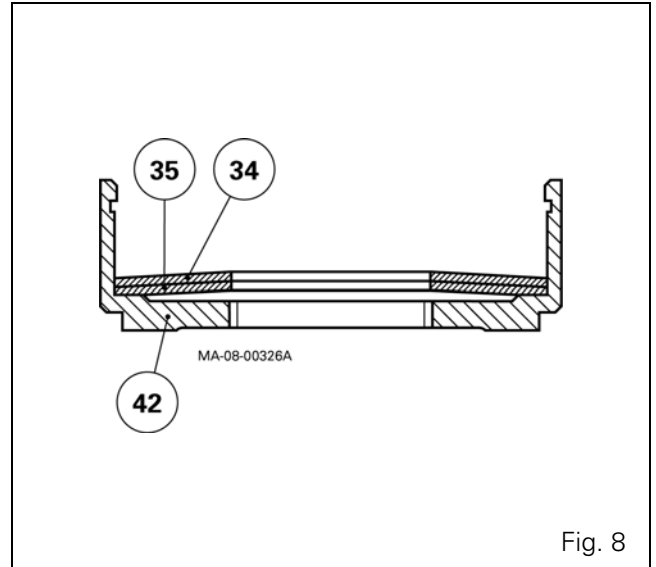

Fig. 8
33. Check and clean the components and replace those that are defective. Check that the 17 bar channel in the hub (40) is not blocked.
34. Position the Belleville washers (35) (34) in the bell (42) (Fig. 8).